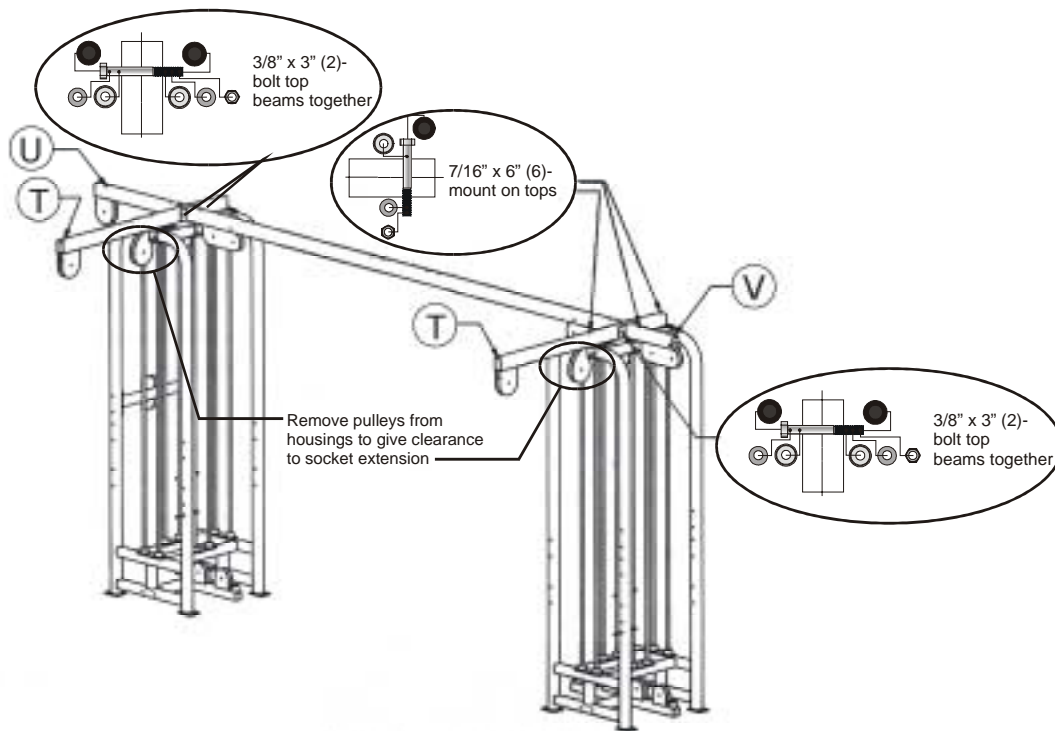
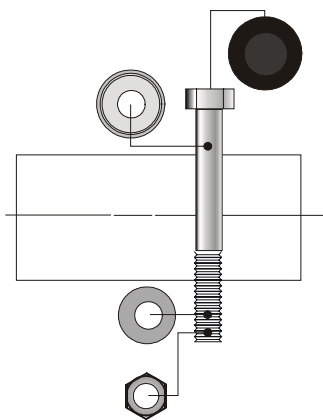

Figure 7. Mount lat tops (T), tricep top (U), adjustable crossover top (V).
Figure 8. Configuration for 6" bolts.
- Using a 5/8" socket and combination wrench, mount the 56" lat tops (part T from *HARDWARE* section) to the cells by inserting two of the large 7/16" by 6" bolts using the hardware configuration shown in Figure 8. Mount the 29" tricep top (part U in *HARDWARE* section) and adjustable crossover top (part V in *HARDWARE* section) to the frame and connecting beam (See Figure 7). You will need to remove the teardrop pulleys from their housings to gain clearance for the socket extension used to tighten the bolts on the tops. Use a 9/16" socket and combination wrench to do this.
Hardware Figure 7. Floating pulleys.